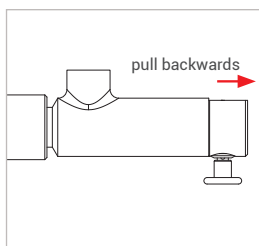

Figure 10
- ▶ Pull lightly on the connector (red arrow *Figure 10*) in the direction opposite that of the connection to make sure that the connector is firmly in place.